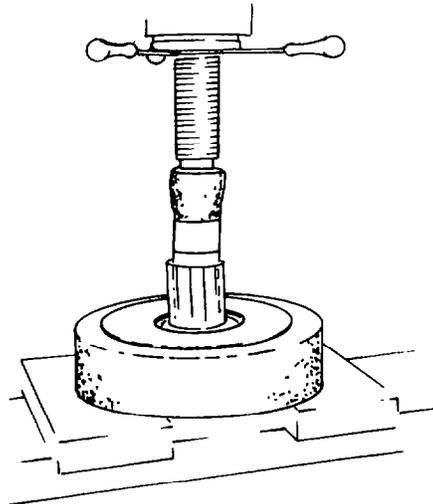

Fig. 284 — Removing Bearing Cone
- k. Remove the rear bearing cone from the bevel pinion shaft, using a hydraulic press and the necessary segments and adapter rings (see fig. 284).